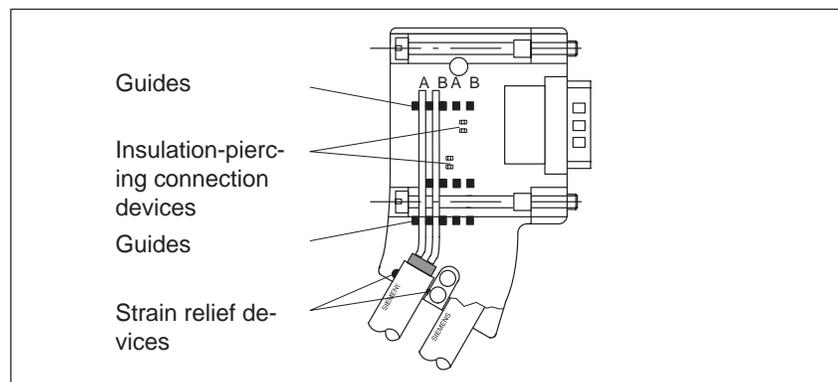

Figure 5-13 Connecting bus cable to bus connector (6ES7 972-0BA30 ...)
4. Insert the green and red conductors into the guides through the insulation-piercing connection devices as shown in Fig. 5-13.